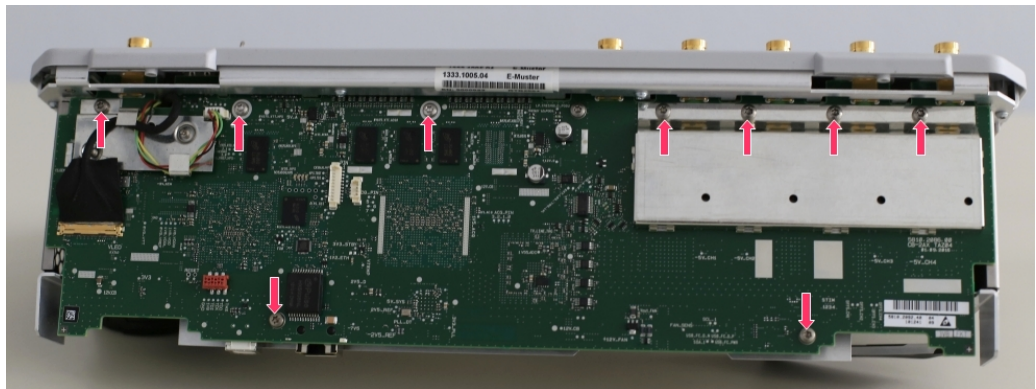

Figure 4-3: Removing the screws of complexboard
4. Unscrew the 10 screws holding complexboard assembly using a TORX Plus 10 IP screwdriver. See Figure 4-3.